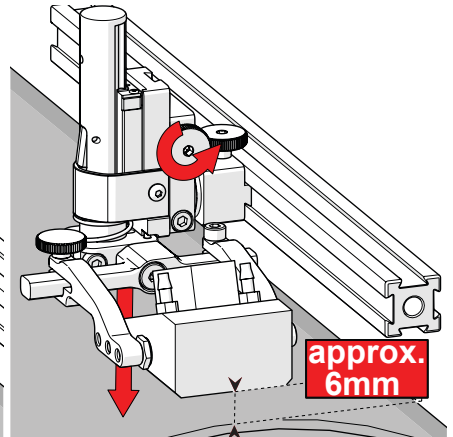

Fig. 111 - Lower toward scan surface
2. Loosen the vertical adjustment knob and slide the probe holder down until the wedge is approximately 6 mm ($\frac{1}{4}$ in) above inspection surface (Fig. 111).